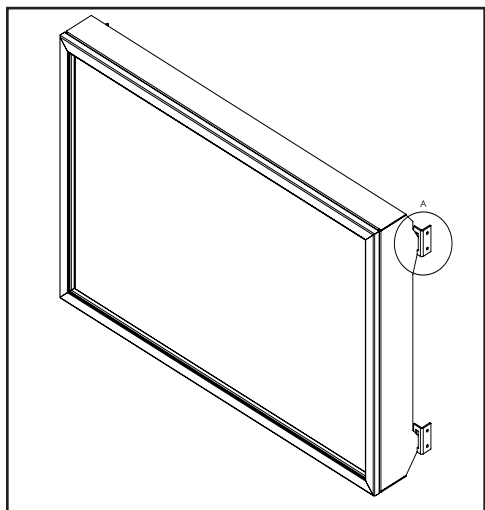

Figure 29a: Installing Safety Screen onto Cabinet Bracket (Parts removed for clarity)
To install the safety screen hold it upright in front of the fireplace with four (4) hooks pointing towards the fireplace. Slide the hooks into the corresponding brackets on each side of the cabinet (see figures 29a and 29b). Ensure the hooks are secure to confirm correct installation. To remove the safety screen unhook it from the brackets by lifting up and out.